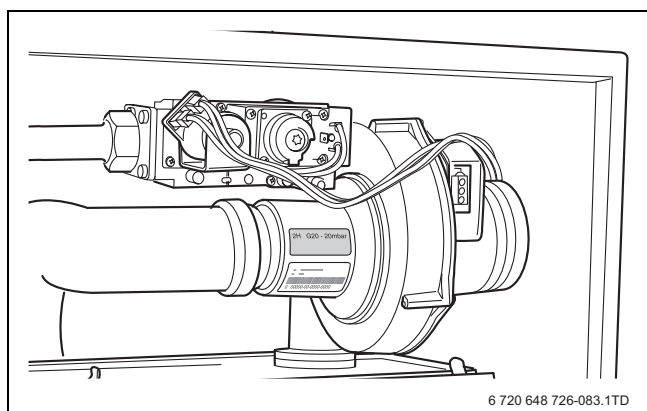

Fig. 83 Checking the gas classification label
- ▶ Check that the actual gas supply is in accordance with the type of gas supply specified on the gas classification label (→ fig. 83).